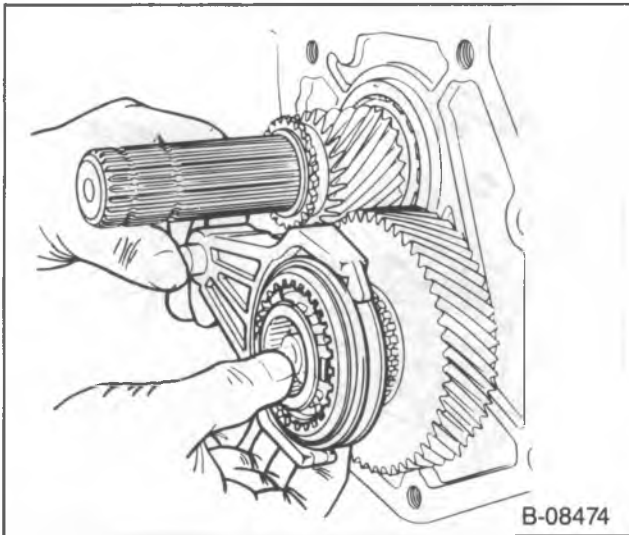
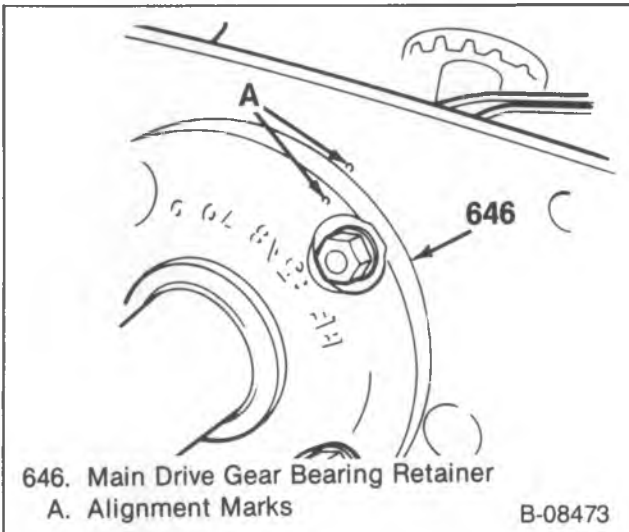

Figure 8—Removing the 5th Speed Shift Fork and the Synchronizer
Figure 9—Bearing Cap Alignment Marks
- Snap ring and the 5th gear synchronizer (630) and shift fork together (figure 8).
- 5th speed blocker ring (631) and the 5th speed gear (632).
8. Speedometer drive gear (609) and the clip.
9. 5th speed driven gear snap ring (606).
10. Main drive gear bearing retainer (646).
- Mark the retainer and the case for alignment (figure 9).